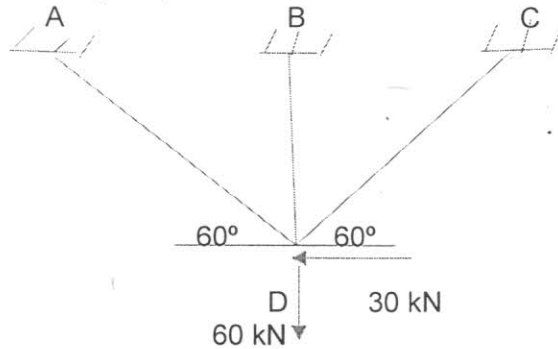

Fig. 5
5. Compute the forces in the members of the truss shown in Fig. 5 by stiffness method. Take $(AE/L) = 1$ for all members.